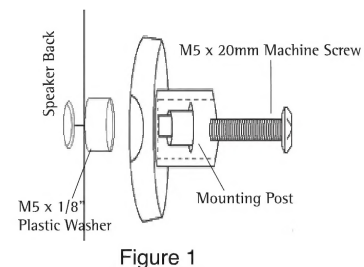

Figure 1
- 1. Most satellite speakers will require the use of the M5 x 20mm machine screw used in combination with the M5 x 1/8" plastic washer. The plastic washer is used as a spacer between the threaded insert and the post (Figure 1).